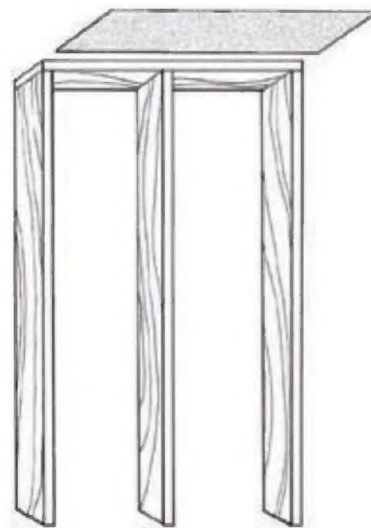
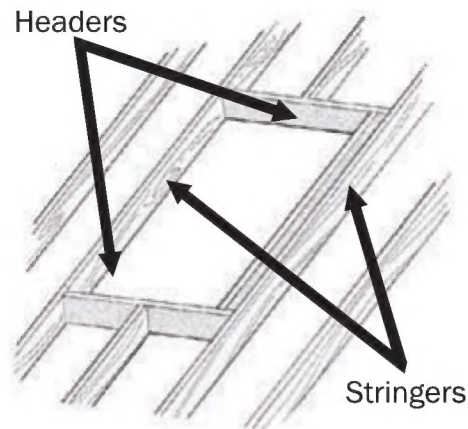

Figure 4
Figure 5
7. If you are cutting the ceiling joist, brace the area below the joist to be cut with heavy timbers to prevent this area of the ceiling from sagging (Figure 4). To maintain the structural integrity of the ceiling, the frame, two headers and a stringer (as shown in Figure 5) should be constructed of two-inch lumber and nailed securely to the ceiling joists.